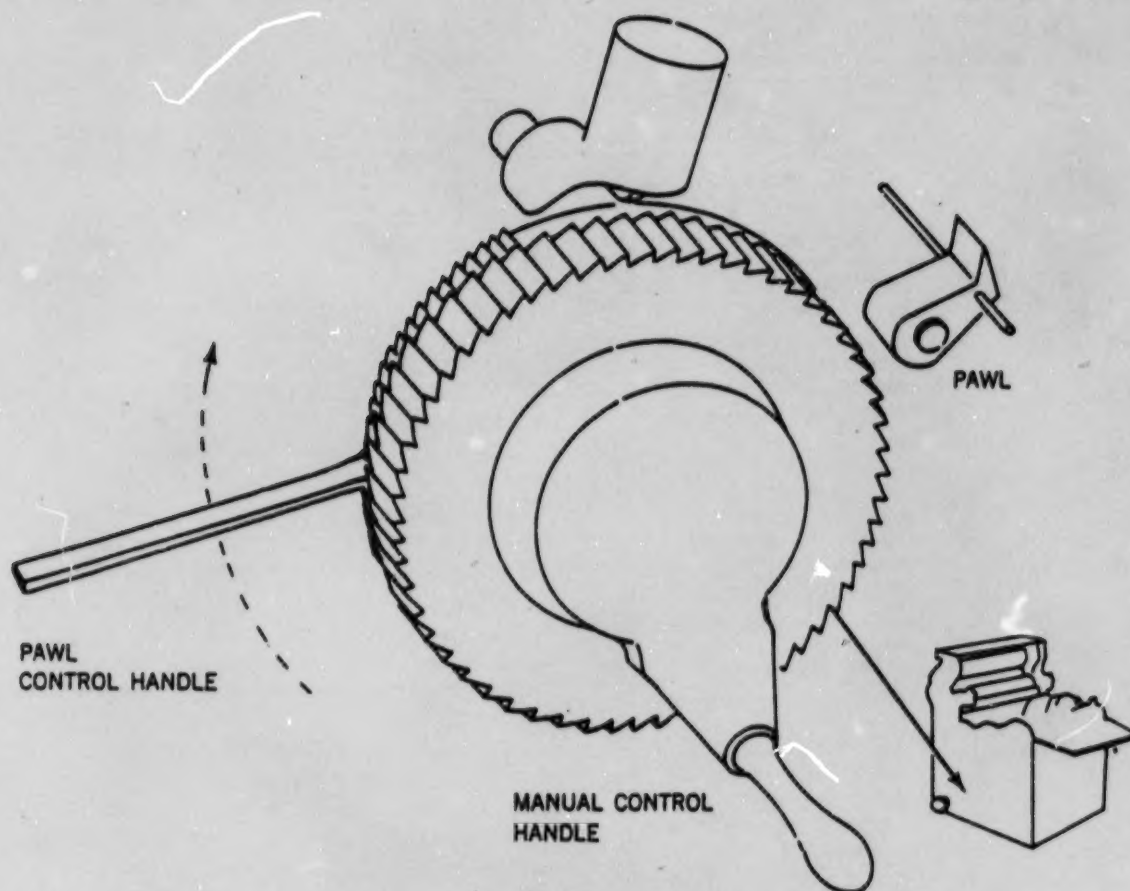

Figure 8-20. Delivery board lowering mechanism.
Automatic pile receder.	Allows the delivery board to lower automatically at a rate of speed determined by a pawl and ratchet attached to the manual handle (fig. 8-20).
Manual control handle.	Used to lower (or raise) the delivery board manually (fig. 8-20).
b. Setting Automatic Pile Receder. To adjust the automatic pile receder (fig. 8-20), engage the pawl and raise the pawl control handle to the desired position. The higher the handle is raised, the greater the rate at which the delivery board will lower. The thicker the stock, the greater the lowering rate at which the delivery board must be set. The feeder valve must be closed in order to make the automatic pile receder operate.